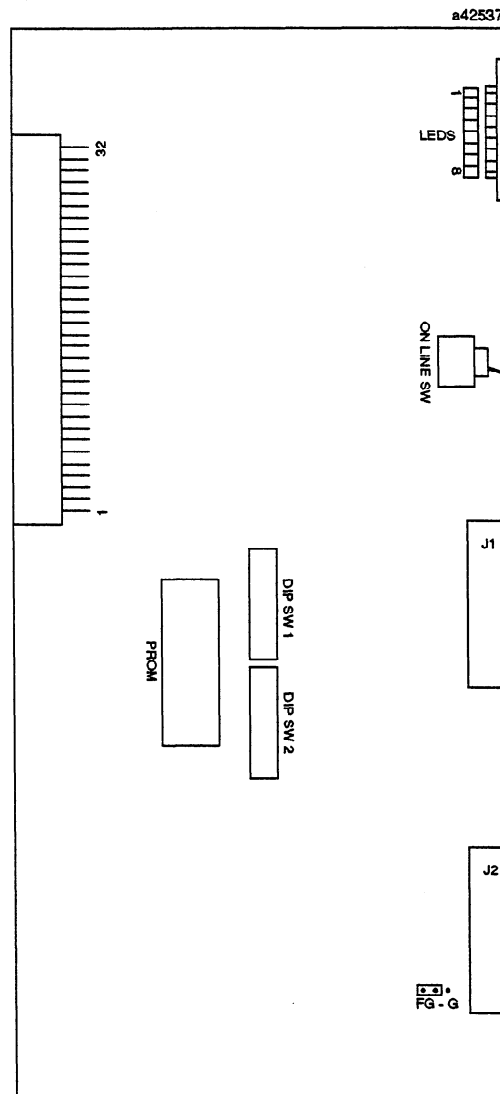

Figure 2-2. Communication Control Module (CCM) Internal PWB
Set the DIP switches (SW1 and SW2) and position the Jumper before installing the CCM module into the Series Five PLC rack. Refer to Tables 2-1, 2-2 for the switch settings and Figure 2-2 below for the PWB component location.
By changing the position of the jumper connection (Shorting Plug) located on the PWB, it is possible to connect or disconnect between Earth-Ground (FG) and 0V of the CCM communication circuit. Refer to Figure 2-2 for the Jumper location on the PWB.